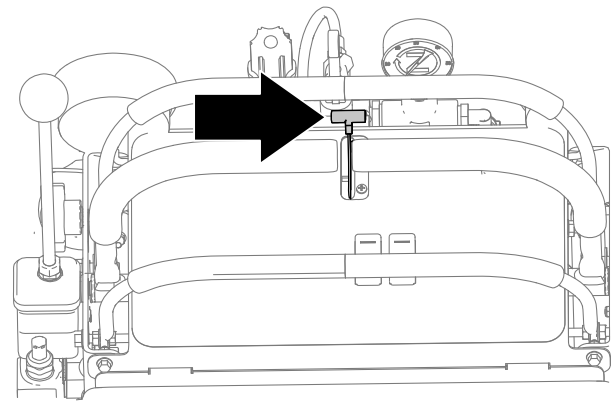

Figure 14
2. Move the throttle up from the SLOW position, approximately 1/2 of the way (Figure 14).